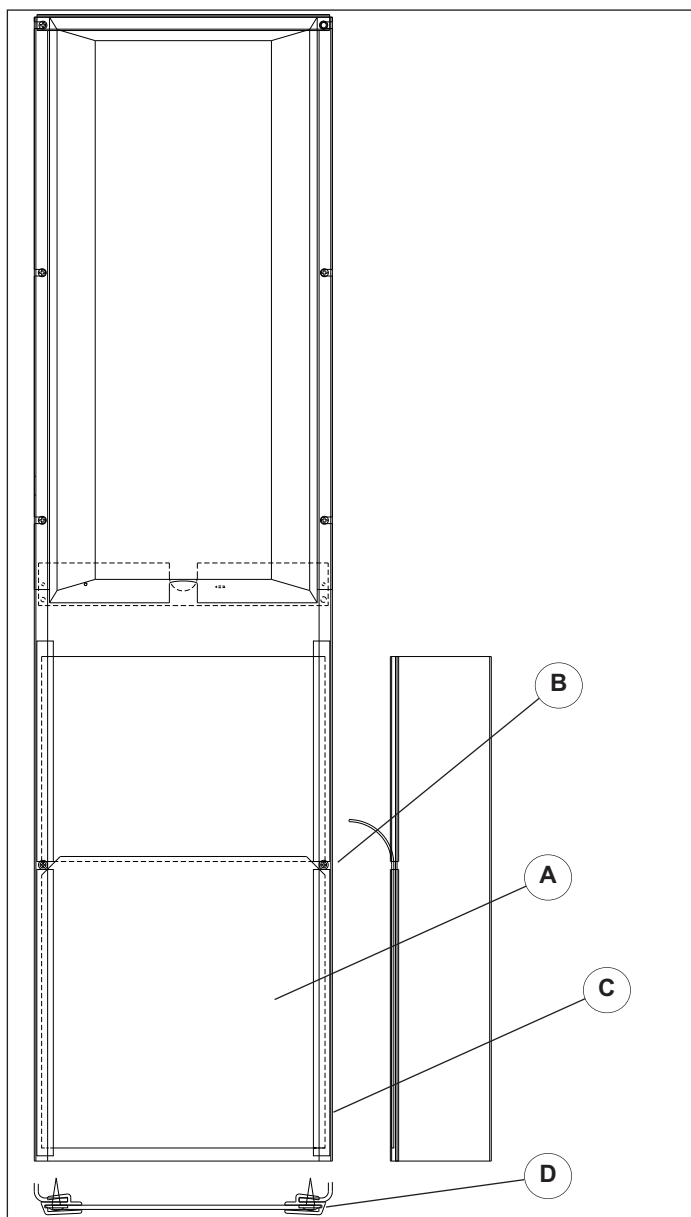

Figure 26.4
1. Locate the proper sideframe covers labeled "DRIVE, NON-DRIVE, UPPER, LOWER" and slide into the groove, Figure 26.4.
2. Locate the proper length of lower sideframe cover (A) and slide down into the groove (B).
4. Snap edging (D) onto front surface.